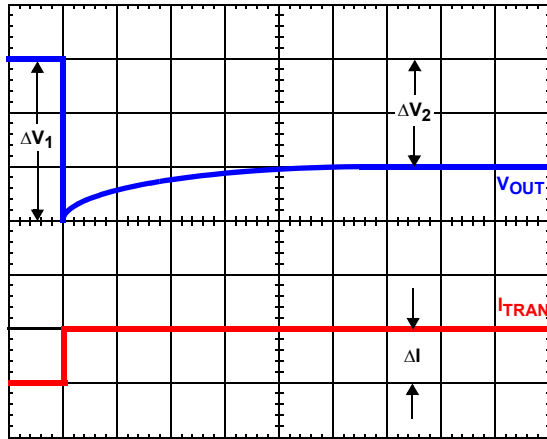

FIGURE 22. TIME CONSTANT MISMATCH BEHAVIOR
Due to errors in the inductance or DCR, it may be necessary to adjust the value of R_1 and R_2 to match the time constants correctly. The effects of time constant mismatch can be seen in the form of droop overshoot or undershoot during the initial load transient spike, as shown in Figure 22. **Do the following steps to ensure the R-C and inductor L/DCR time constants are matched accurately.**
- Record ΔV_1 and ΔV_2 as shown in Figure 22.